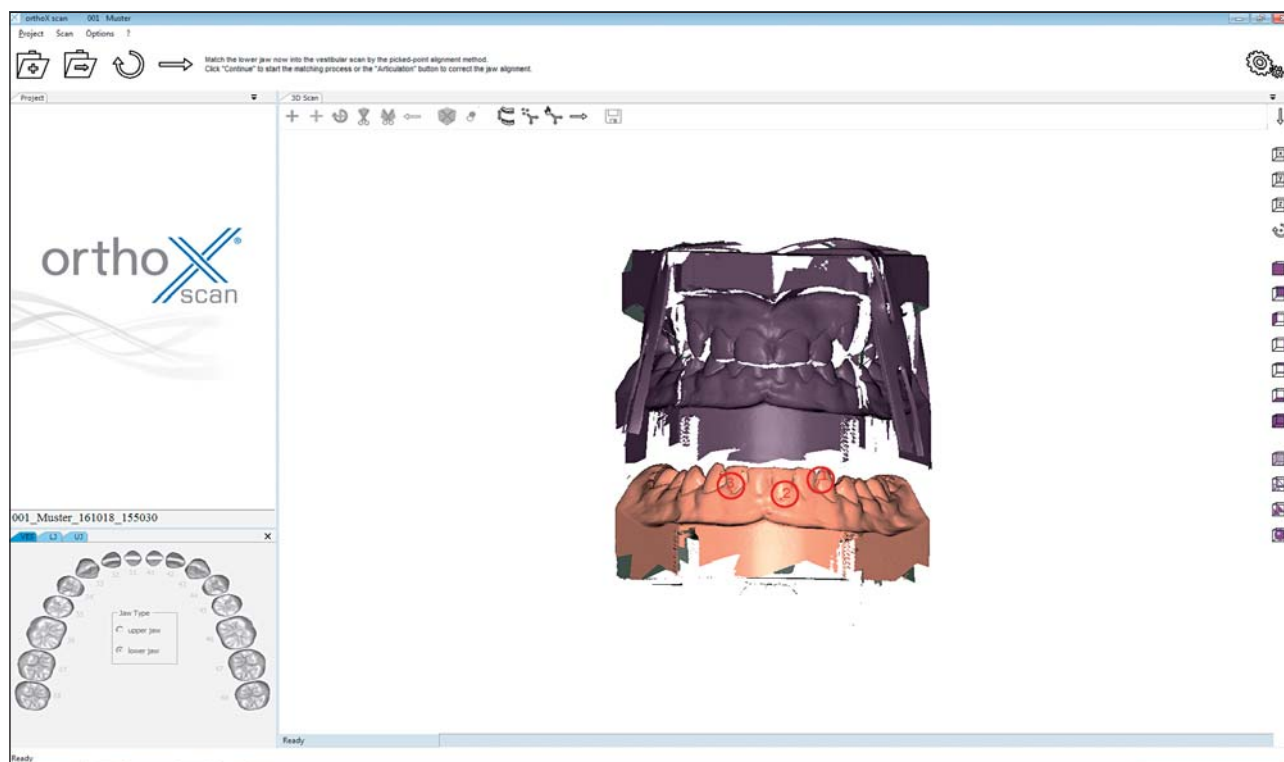

Fig. 27: Selecting reference points on the lower jaw scan. The selected points must be visible on the vestibular scan.
- Proceed with the upper jaw the same way as for the lower jaw and align it (see Fig. 27 – 29).